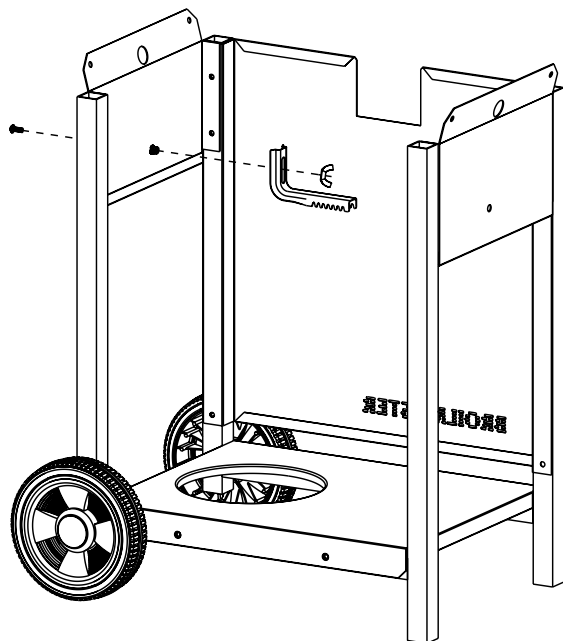

FIGURE 8
Attach cylinder retainer to head bracket which is adjacent to wheels with one (1) 1/4-20 wing nut and (1) 1/4-20 x 3/4 Phillips screw. Figure 8